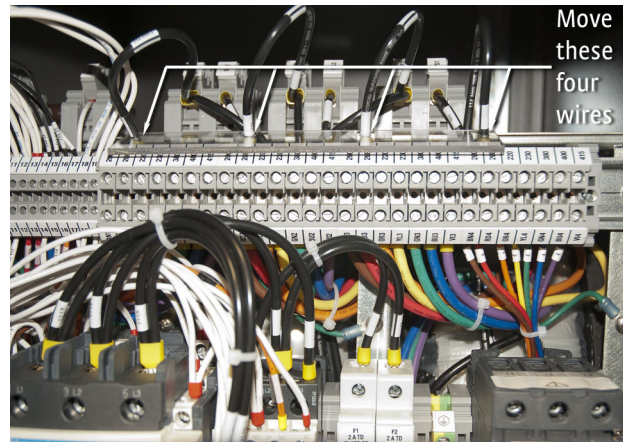

FIGURE 6-3 Voltage change detail
3. Observe the four voltage-selection wires held by the clear plastic wiring guide. (FIGURE 6-3).